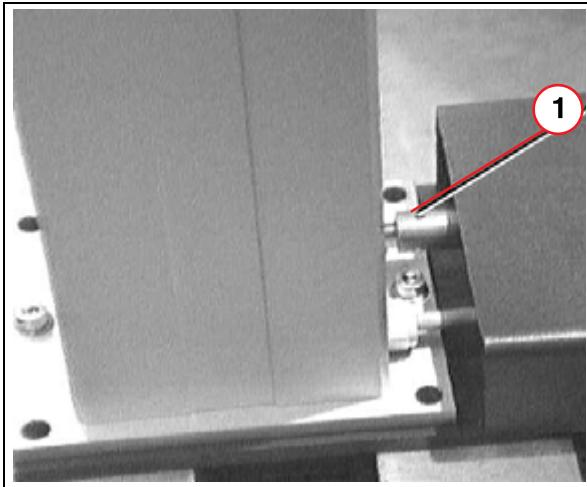
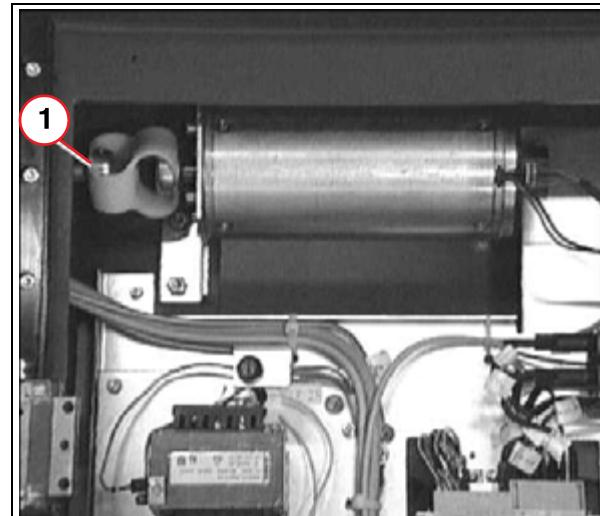

Fig. 24: Allen_screws_A
Fig. 25: Allen_screws_B
- Turn the lifting column drive shaft by hand until the Allen screws of the drive shaft are accessible from above (\(Fig. 24 / p. 59\)).
- Remove the 2.5 mm Allen set screws (\(1/Fig. 24 / p. 59\) and \(1/Fig. 25 / p. 59\)).
- Remove the mounting screws on the base of the lifting column (\(Fig. 24 / p. 59\) and remove the column.
- Connect the drive shaft with the PVC coupling (Allen screws 2.5 mm) and bolt the motor down ((Fig. 25 / p. 59)).